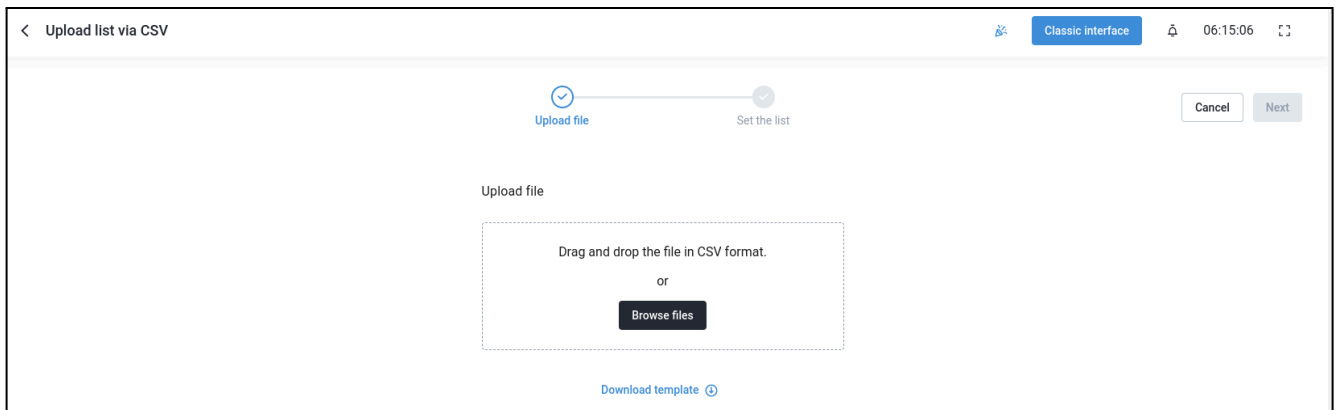

Figure 39: Downloading the Vehicle List template
2. Click the **Download template** button to download the template. See Figure 39 for an example and Table 6 for the Vehicle List parameters and definitions.